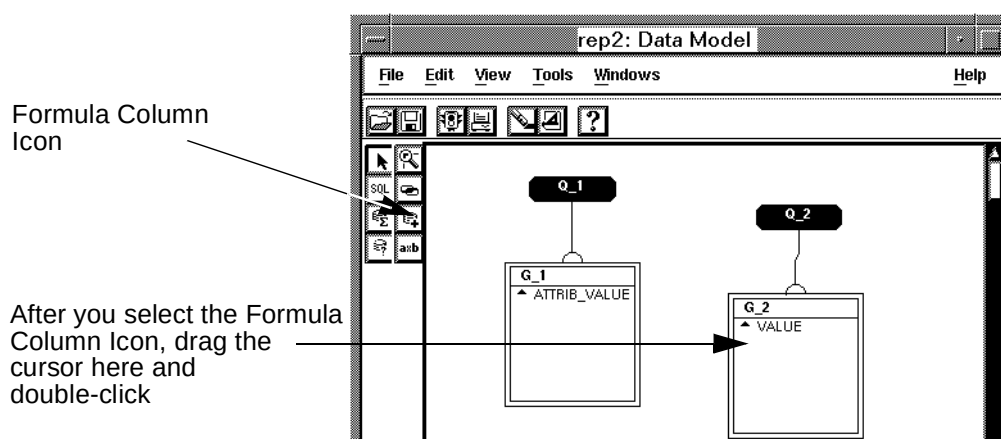

Figure 3-62. Data Model View of Selected Report
1. Open the Data Model view of the report whose field you want to encapsulate, Figure 3-62.
2. Double-click on the Formula-Column icon, Figure 3-62.